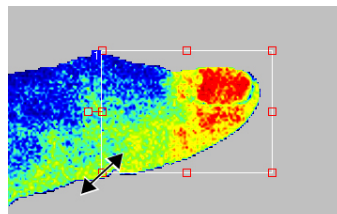

Figure 7-5 Resize a ROI.
3. If needed, resize the ROI: select the ROI, place the cursor on its boundary until it becomes a double-ended arrow. Click and drag out to the desired size, see Figure 7-5.